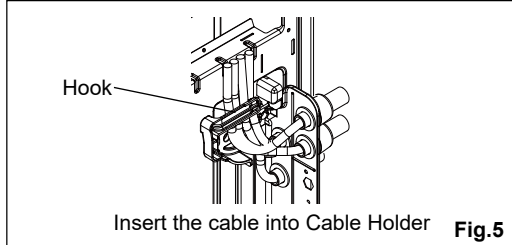

Fig.5
- (5) Insert Connecting Cable and Power Supply Cable into Cable Holder by Hook. (Fig.5)